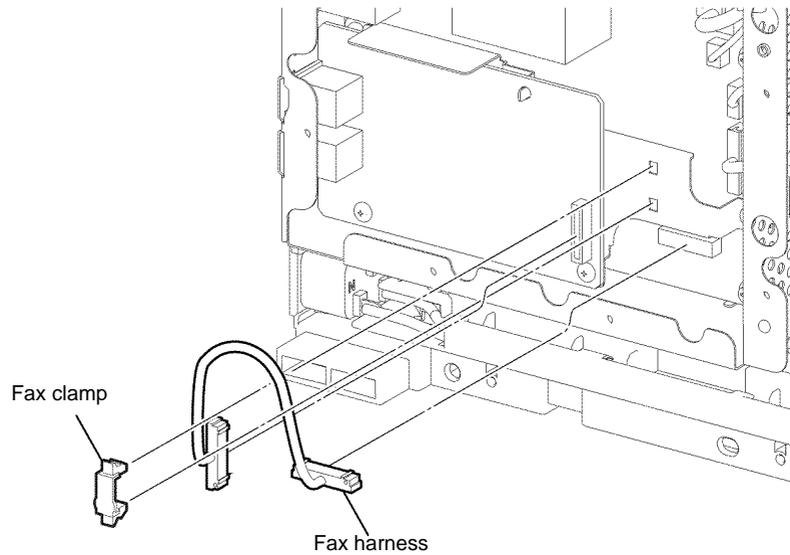

Figure 3 Fax harness removal
10. Remove the fax clamp fixing the fax harness assembly, Figure 3.
11. Disconnect P/J432 from the ESS PWB and P/J1350 from the Fax PWB, then remove the fax harness, Figure 3.